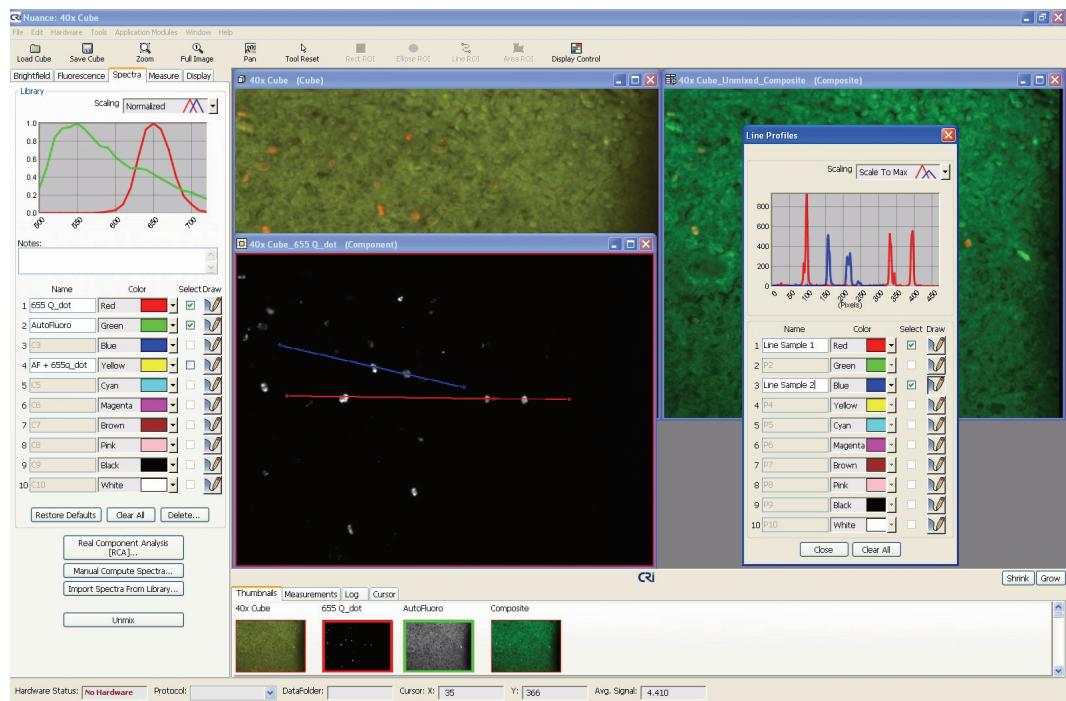

Figure 36. Line Profiles drawn on component images
- Figure 36 shows two profile lines drawn on a component image. These lines show the variation in the amount of 655 nm Qdot™ present in the cells sampled by the lines.